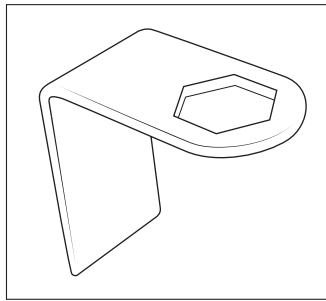

Figure 25
8. Support axle and remove shocks. AEV-supplied tool (fig. 25) will help for holding nut on top inside shock mounts. Retain hardware, discard shocks.